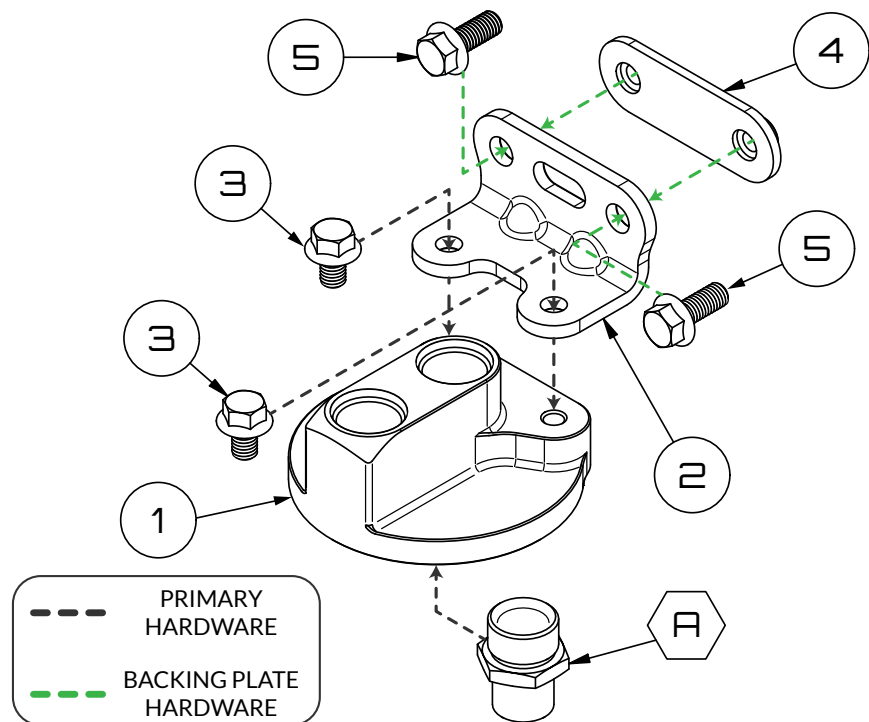

Figure 1 - ENV-142 Schematic
1. Ensure all parts shown in Figure 1 are present before proceeding.